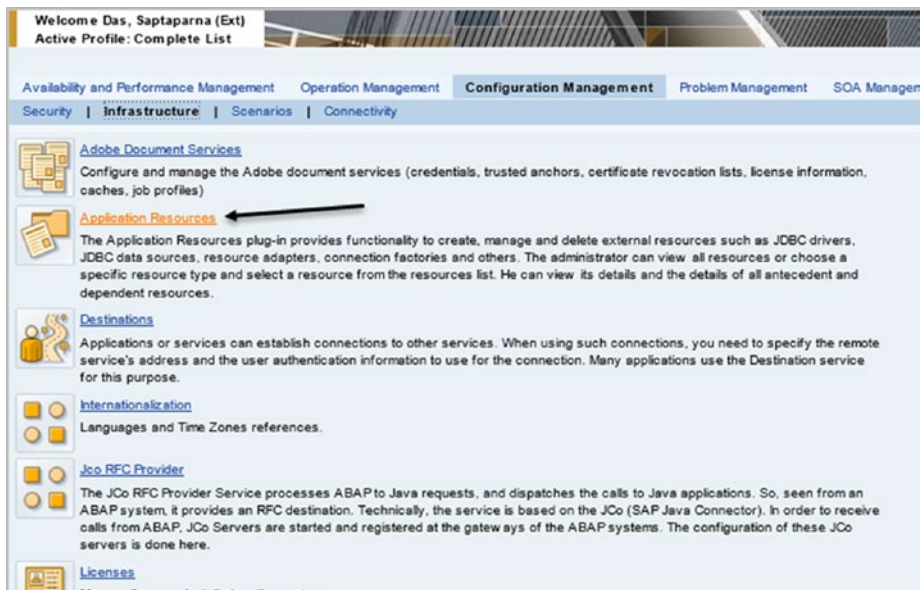

Figure 6-66. Configuration management
2. Navigate to Configuration Management ► Infrastructure ► Application Resources, as shown in Figure 6-66.